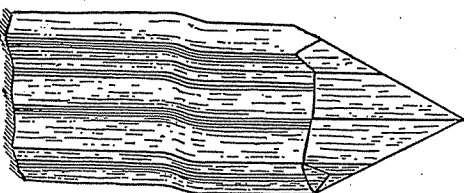

Fig. 22
**Crystal System**—Usually in the form of elongated prisms vertically striated. Crystals sometimes bent or curved and steeply terminated. (Fig. 22.)